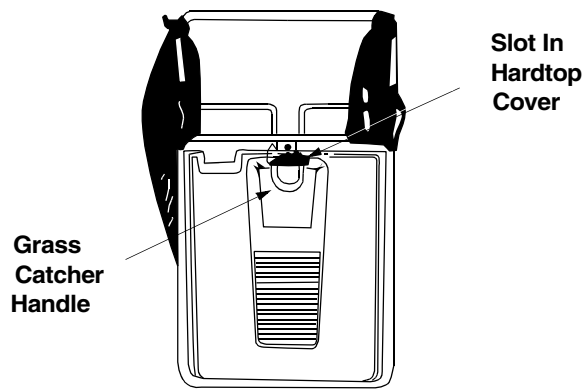

Figure 8
- Slide the handle on the grass catcher frame down into the slot in the hardtop cover. See Figure 8.